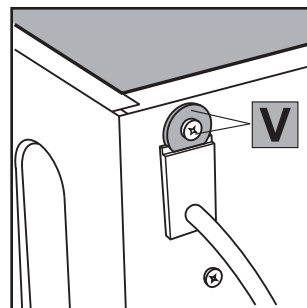

Fig. 15
4. Remove the screw and washer V [fig. 15], which act as a stop for the cable passageway.